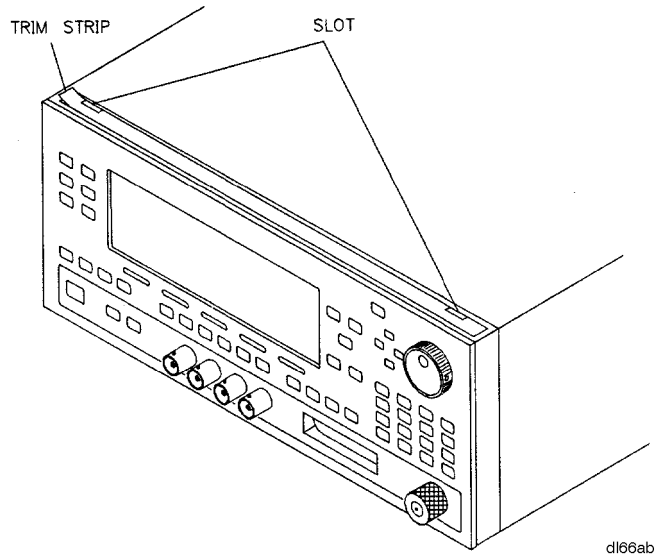

Figure 1. Front Panel Trim Strip
5. Remove the vinyl trim strip from the top front edge of the instrument. (Place a flat screwdriver in either slot in the trim strip and lift to remove; see Figure 1).